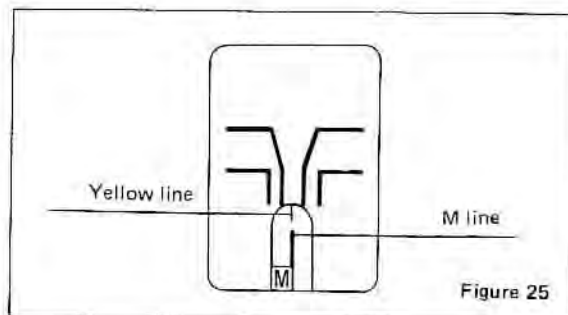

Figure 25
9. Turn the stitch width adjusting dial to align the yellow line indicator to the "M" line on the indicator window (Figure 25).